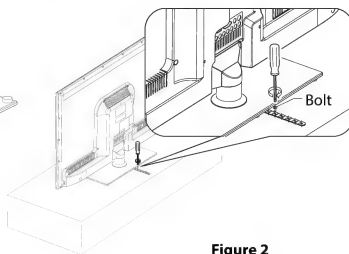

Figure 2
3. Screw the free end of the safety element to the tabletop – see figure 2.